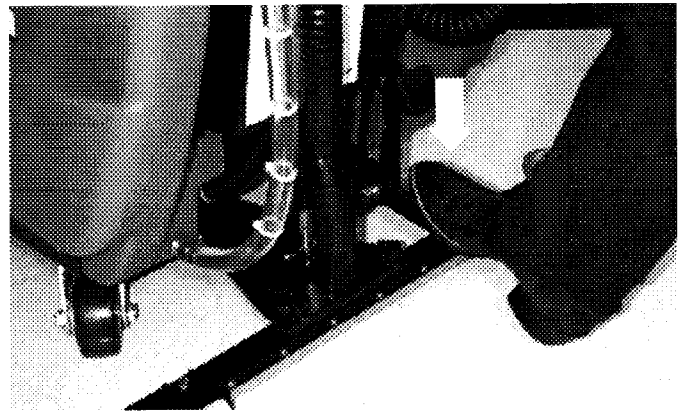

FIG. 5
- Raise brush head, step down firmly on the bottom brush lift foot pedal. (Figure 5)